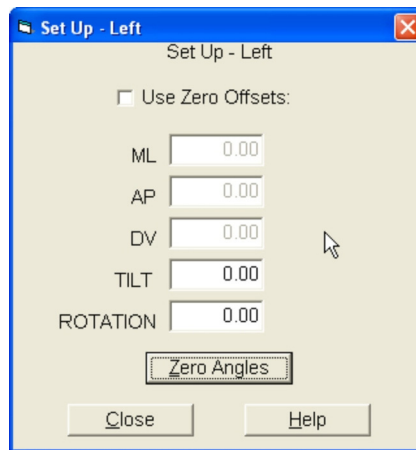

Figure 45. The set up dialog and **Zero Angles** button
5. If using offsets (see "Initial Settings" on page 29) click **Setup** and check the **Use Zero Offsets** box (see Figure 45), and enter the values.